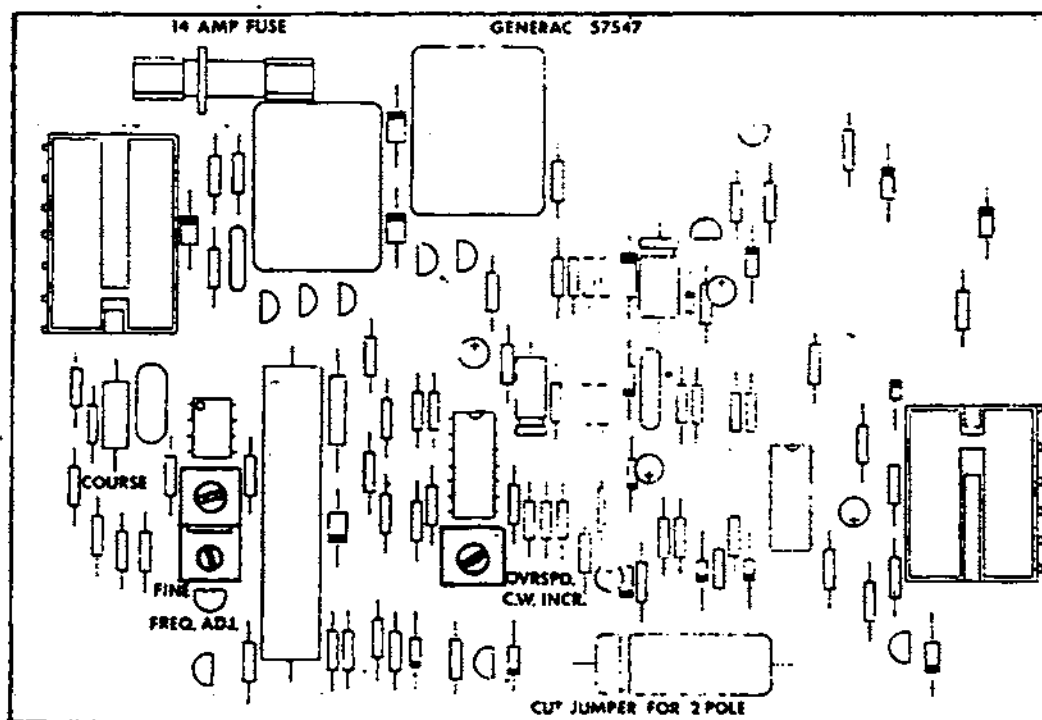

Figure 3.3-F. DC Control Circuit Board
3.3.9- DC CONTROL CIRCUIT BOARD (Figure 3.3-A, 3.3-F)